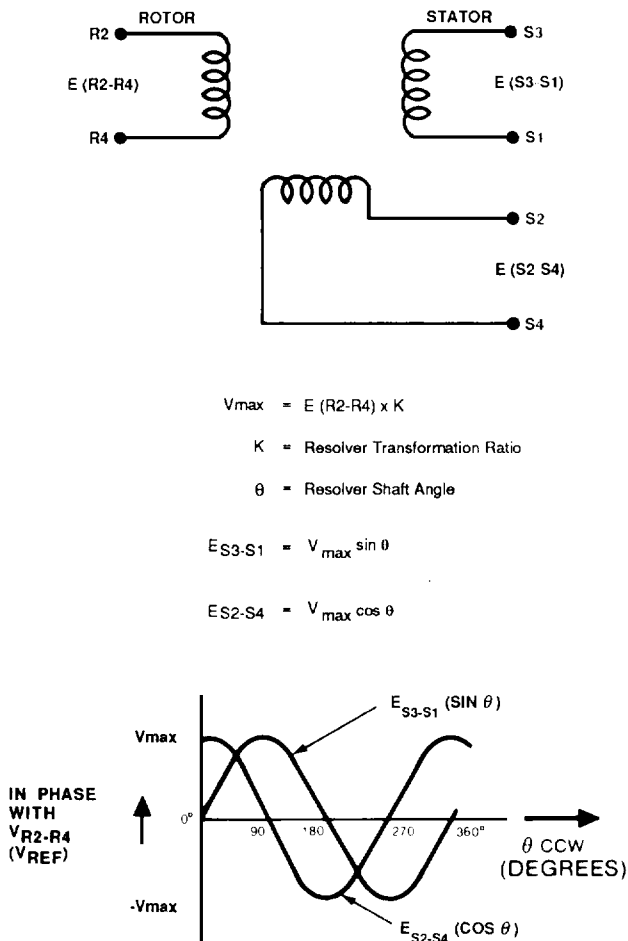
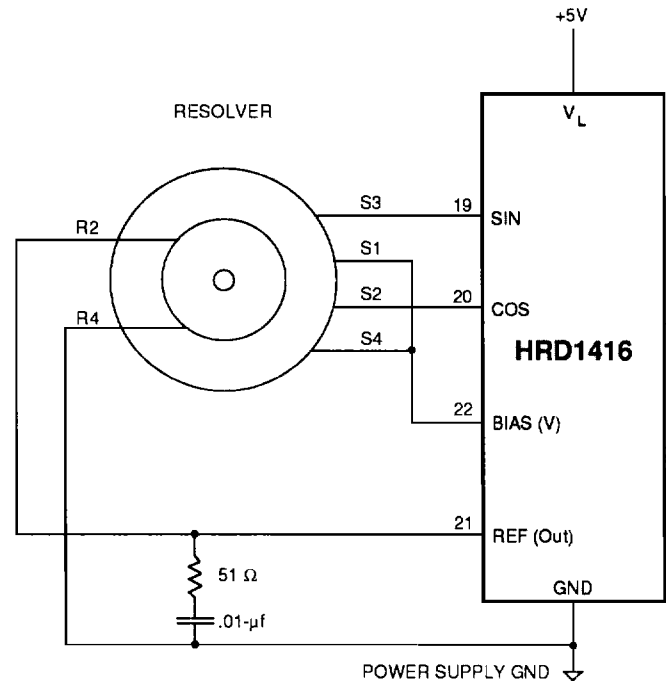

FIGURE 2 Resolver Conventions
FIGURE 3 Resolver Connections
Connections of resolver to the HRD1416 is shown in Figure 3. Standard resolver "conventions" as applicable are shown in Figure 2. Resolvers normally contain a "rotor" winding (reference input) and two "signal" windings (sin and cos outputs). The Sin (S3-S1) and Cos (S2-S4) resolver outputs are signals which are proportional to the "product" of the "sin", "cos" (respectively) of shaft angle θ and the reference voltage (R2, R4 or RH, RL), multiplied by the resolver transformation ratio (K). The reference input to the resolver (carrier signal) is essentially modulated by the shaft angle, producing "modulated" sin and cos outputs. The waveforms in Figure 2 represent the "demodulated" sin and cos outputs of the resolver, which essentially shows the amplitude relationship (in phase or out of phase) of the sin and cos outputs with respect to the reference input.
Resolvers are typically connected as shown in Figure 3. The "bias"(V) connection at Pin 22 serves as the "signal low" or "return" for the Sin and Cos resolver signals. Bias (V) is an internally generated "analog gnd" with a nominal output voltage of 2.15 V-dc. The sin and cos inputs are high impedance, voltage follower, DC coupled inputs. The nominal Sin, Cos input voltage level is 0.5 V-rms \pm 10%. The reference (REF) output is an A.C. coupled output (4.7uf series blocking capacitor) with an output drive of 10 mA-rms. The nominal output voltage level is either 0.5 volt or 1.0 V-rms, depending
If the resolver is going to be located away from the converter (more than a few feet), it is suggested to use a shielded conductor for both Sin and Cos signals with the shield terminated to power supply GND. The 1416 Reference output (pin 21) has short circuit limiting (30 mA typical) and can drive a maximum capacitive load of 10,000 pf. As a general practice, decoupling capacitors should be used on the power supply (+5V) near the 1416 converter. As a minimum, a 1- μ f tantalum in parallel with a 0.01- μ f ceramic capacitor is recommended. To improve the REF (Out) stability when driving reactive loads (any resolver), a series RC (51 ohm in series with .01- μ f) should be connected between REF (Out) and GND, as shown in Figure 3.